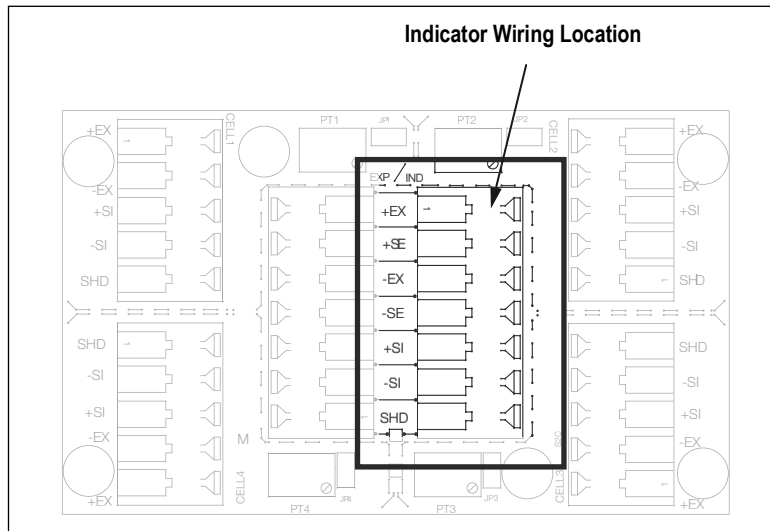

Figure 2-20. Indicator Wiring Board Location
1. Determine the indicator's load cell input connections from the indicator manual (Figure 2-20).